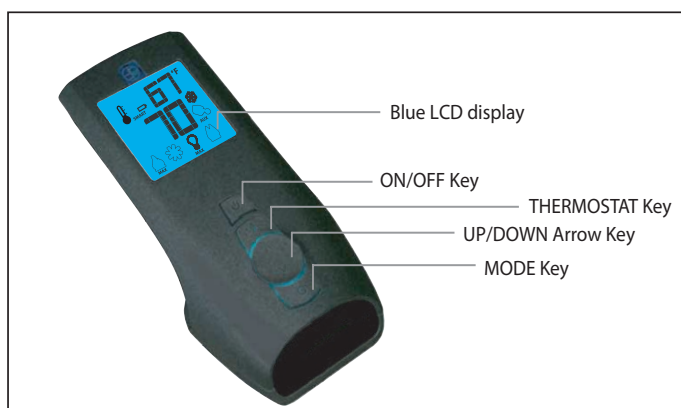
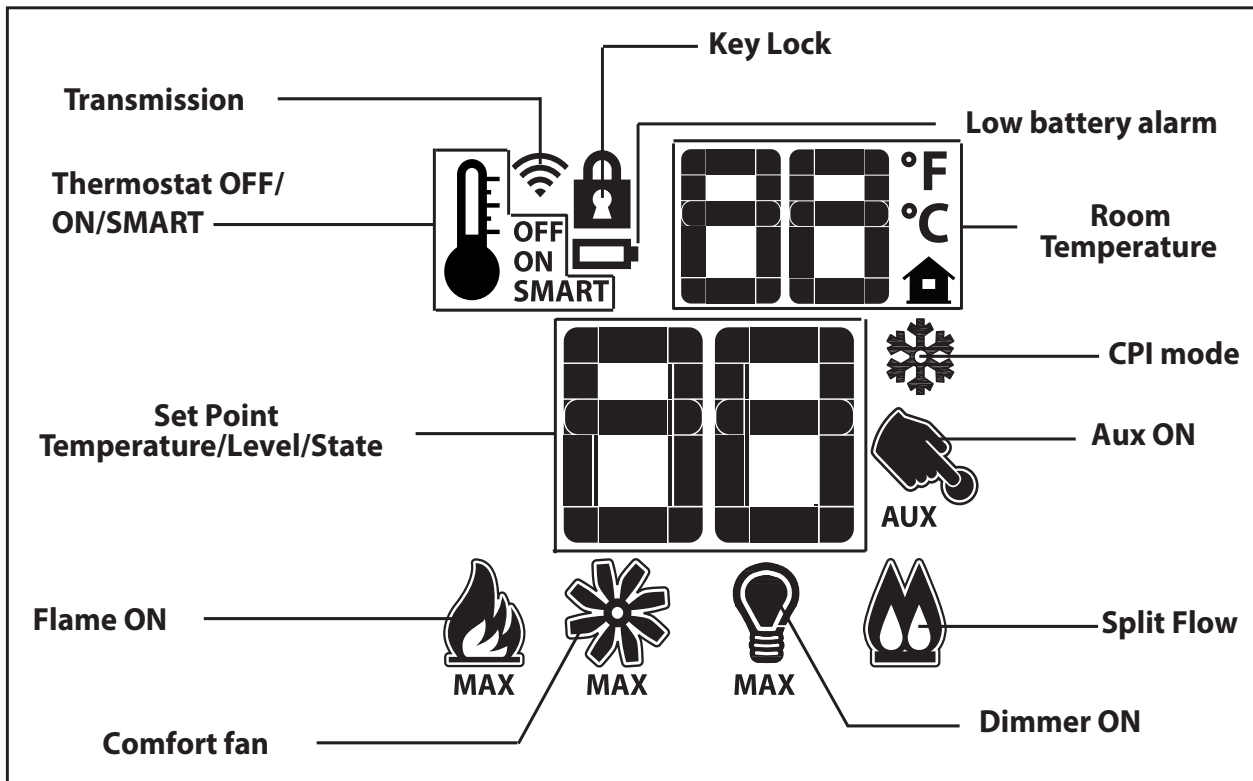
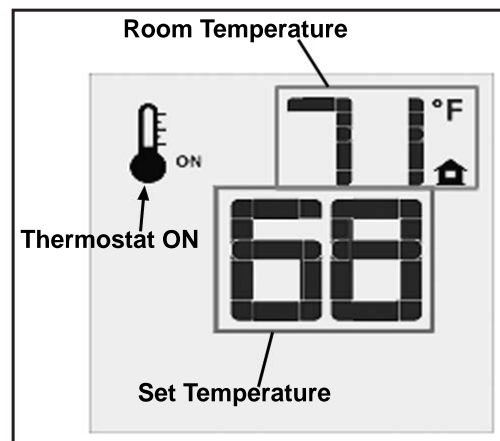
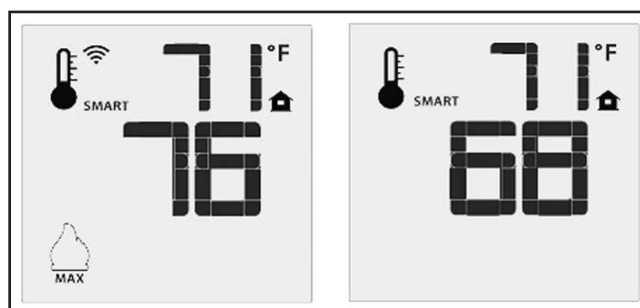

Figure 4: Proflame 2 Transmitter.
Figure 5: Proflame 2 Transmitter LCD Screen.
Figure 9: Remote Control Displays Set Temperature.
Figure 10: Remote Control's Smart Flame Function.
The Proflame 2 Transmitter is a black remote control with a blue backlit LCD display. It uses a streamline design with a simple button layout and informative LCD readout (Figure 5). The Transmitter is powered by three (3) AAA type batteries. A Mode Key is provided to Index between the features and a Thermostat Key is used to turn on/off or index through Thermostat functions (Figure 4 & 5)
When the Westport is turned off press the mode key to index to the constant pilot (CPI) mode icon (see figure 9). Pressing the up arrow key will select Continuous Pilot Ignition (CPI) and pressing the down arrow key will return to IPI. Once a selection is made the IFC will beep once to confirm it had received the command. **NOTE: It is recommended to use the continuous pilot mode during the winter when the outside temperature is below 50°F (10°C) to keep the chimney properly heated for updraft during burner ignition.** Continuous pilot mode also keeps the firebox warm which eliminates both heat loss to cold air that is trapped inside the firebox as well as excessive exhaust vapour condensation on the door glass.
Press the ON/OFF Key on the Transmitter. The Transmitter LCD display will only show the room temperature and Icon (see Figure 9). A single “beep” from the IFC confirms reception of the command and both the pilot light (if the unit is not set to continuous pilot) and main burner will turn off.
The Remote Control can operate as a room thermostat. The thermostat can be set to a desired temperature to control the comfort level in a room. To activate this function, press the Thermostat Key (see Figure 4). The LCD display on the Transmitter will change to show that the room thermostat is “ON” and the set temperature is now displayed (see Figure 9). To adjust the set temperature, press the Up or Down Arrow Keys until the desired set temperature is displayed on the LCD screen of the Transmitter.
The Smart Thermostat function adjusts the flame height in accordance to the difference between the set point temperature and the actual room temperatures. As the room temperature gets closer to the set point the Smart Function will modulate the flame down. To activate this function, press the Thermostat Key (Figure 4) until the word “SMART” appears to the right of the temperature bulb graphic (Figure 10). To adjust the set temperature, press the Up or Down Arrow Keys until the desired set temperature is displayed on the LCD screen of the Transmitter.